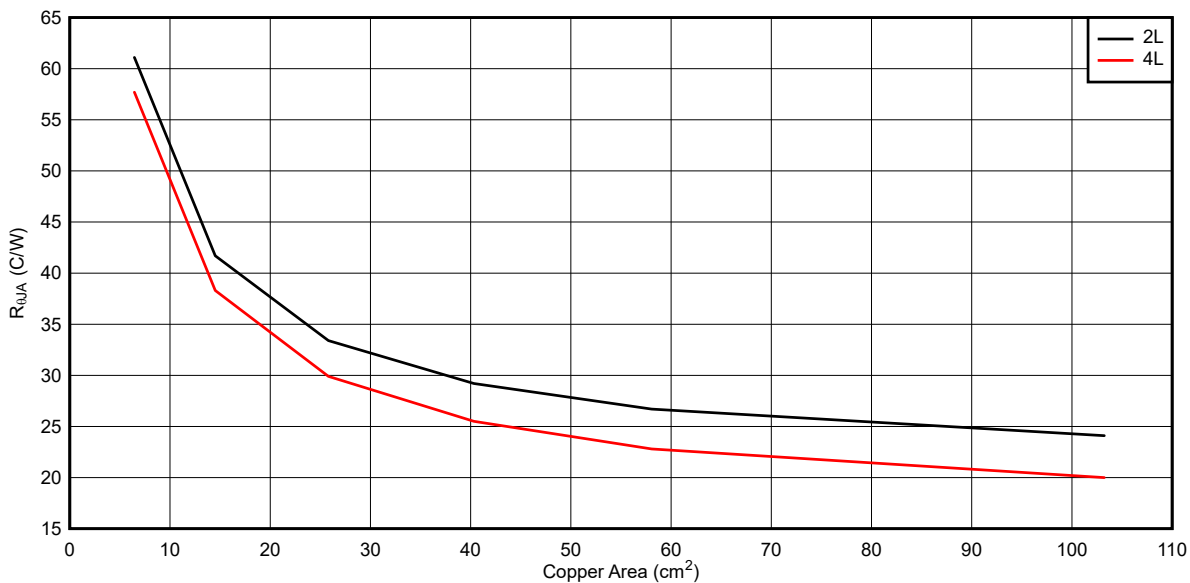

Figure 10-3. Typical $R_{\theta JA}$ Versus Copper Area
The LM5013-Q1 features a die attach paddle, or "thermal pad" (EP), to provide a place to solder down to the PCB heat-sinking copper. This provides a good heat conduction path from the regulator junction to the heat sink and must be properly soldered to the PCB heat sink copper. Typical examples of $R_{\theta JA}$ can be found in Figure 10-3. The copper area given in the graph is for each layer. The top and bottom layers are 2-oz copper each, while the inner layers are 1 oz. Remember that the data given in this graph is for illustration purposes only, and the actual performance in any given application depends on all of the previously mentioned factors.
To continue with the design example, assume that the user has an ambient temperature of 70°C and wishes to estimate the required copper area to keep the device junction temperature below 125°C, at full load. From the curves in Section 8.2.3, an efficiency of about 92% was found at an input voltage of 48 V with output of 12 V with 1.75-A load. The efficiency will be somewhat less at high junction temperatures, so an efficiency of approximately 90% is assumed. This gives a total loss of about 2.3 W. Subtracting out the conduction loss alone for the inductor and catch diode, the user arrives at a device dissipation of about 1.54 W. With this information, the user can calculate the required $R_{\theta JA}$ of about 30°C/W. Based on Figure 10-3, the required copper area is about 40 cm² for a two-layer PCB.